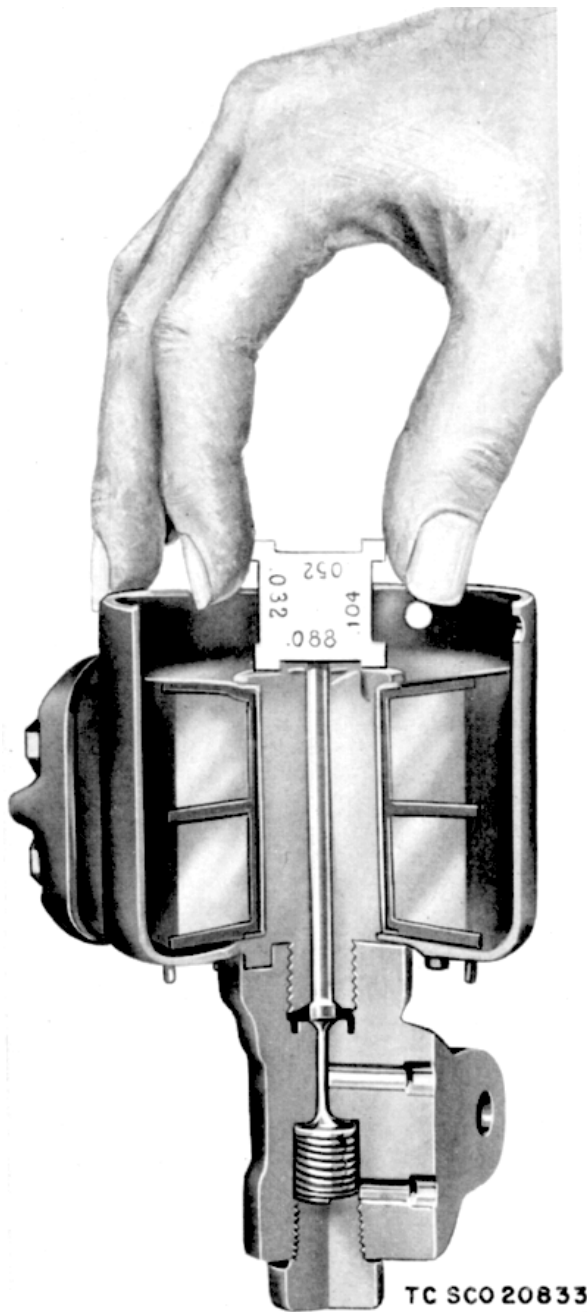

Figure 25. Enclosed coil "On" type magnet valve, gage in proper place for checking valve stem travel.
f. The air gap and travel of the magnet valve should be periodically measured. Gap gage GE. 1499733 (figs. 25 and 26) is arranged with four measuring gaps and should be used for this check. This also applies to the adjustment of new valves. The measurements are made by removing the magnet valve cover and armature. The 0.032-inch gap of the gage is placed over the upper stem or plunger and pressed down. This should seat the exhaust valve; that is, air should not escape through the exhaust valve. If air passes through, new valves should be installed.
- (1) Place the 0.052-inch gap over the exhaust valve stem and press down. If the valve stem is of the correct length, the exhaust valve will seat and air will not pass through it, and the legs of the gage will rest on top of the magnet core. If these conditions are not satisfied, the valve stem should be lengthened or shortened. When the exhaust valve stem is found to be too short, it can be lengthened a trifle by care fully peening the upper end. After the